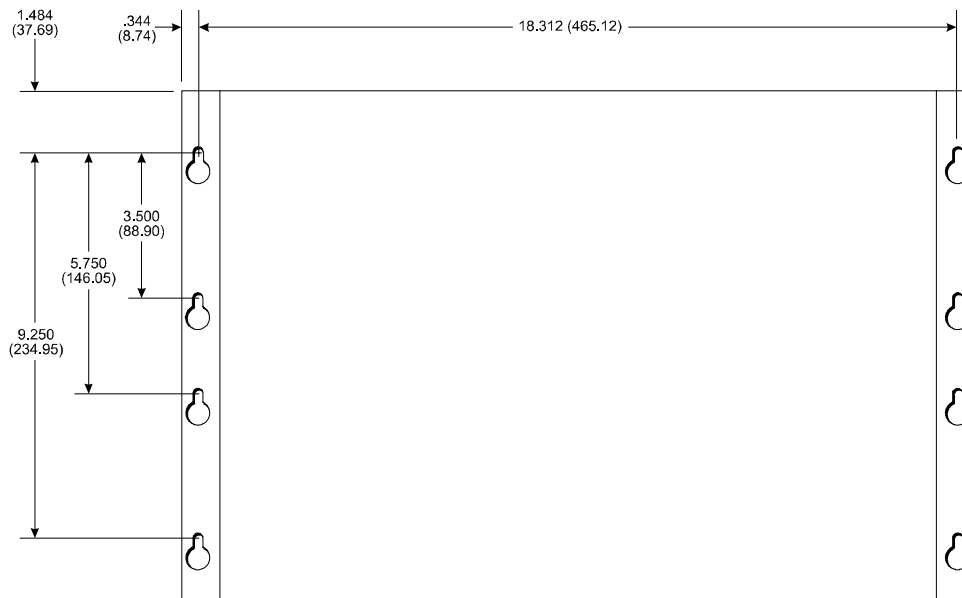

Figure 3-15. 1500 Mounting Dimensions
2. Refer to the following *Mounting Dimensions* (Figure 3-15) as a guide for positioning your system onto a wall or rack